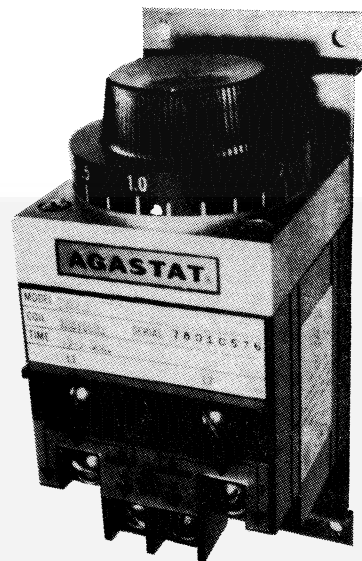

FIGURE 16. PROGRAMMED TRANSITION TIME DELAY
6. Locate the time delay (shown in Figure 16) in the rear of the cabinet on the transfer switch base assembly.